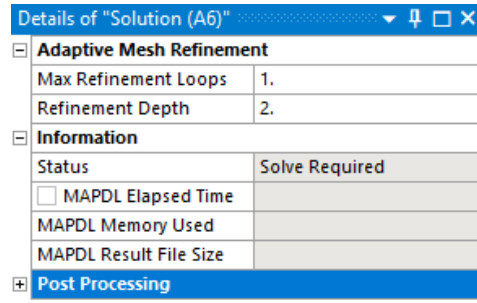

Figure 2-54 The Details of "Solution" window
1. Select the **Solution** node in the **Outline** pane; the **Solution** contextual tab is displayed. Also, the **Details of “Solution”** window is displayed, refer to Figure 2-54.